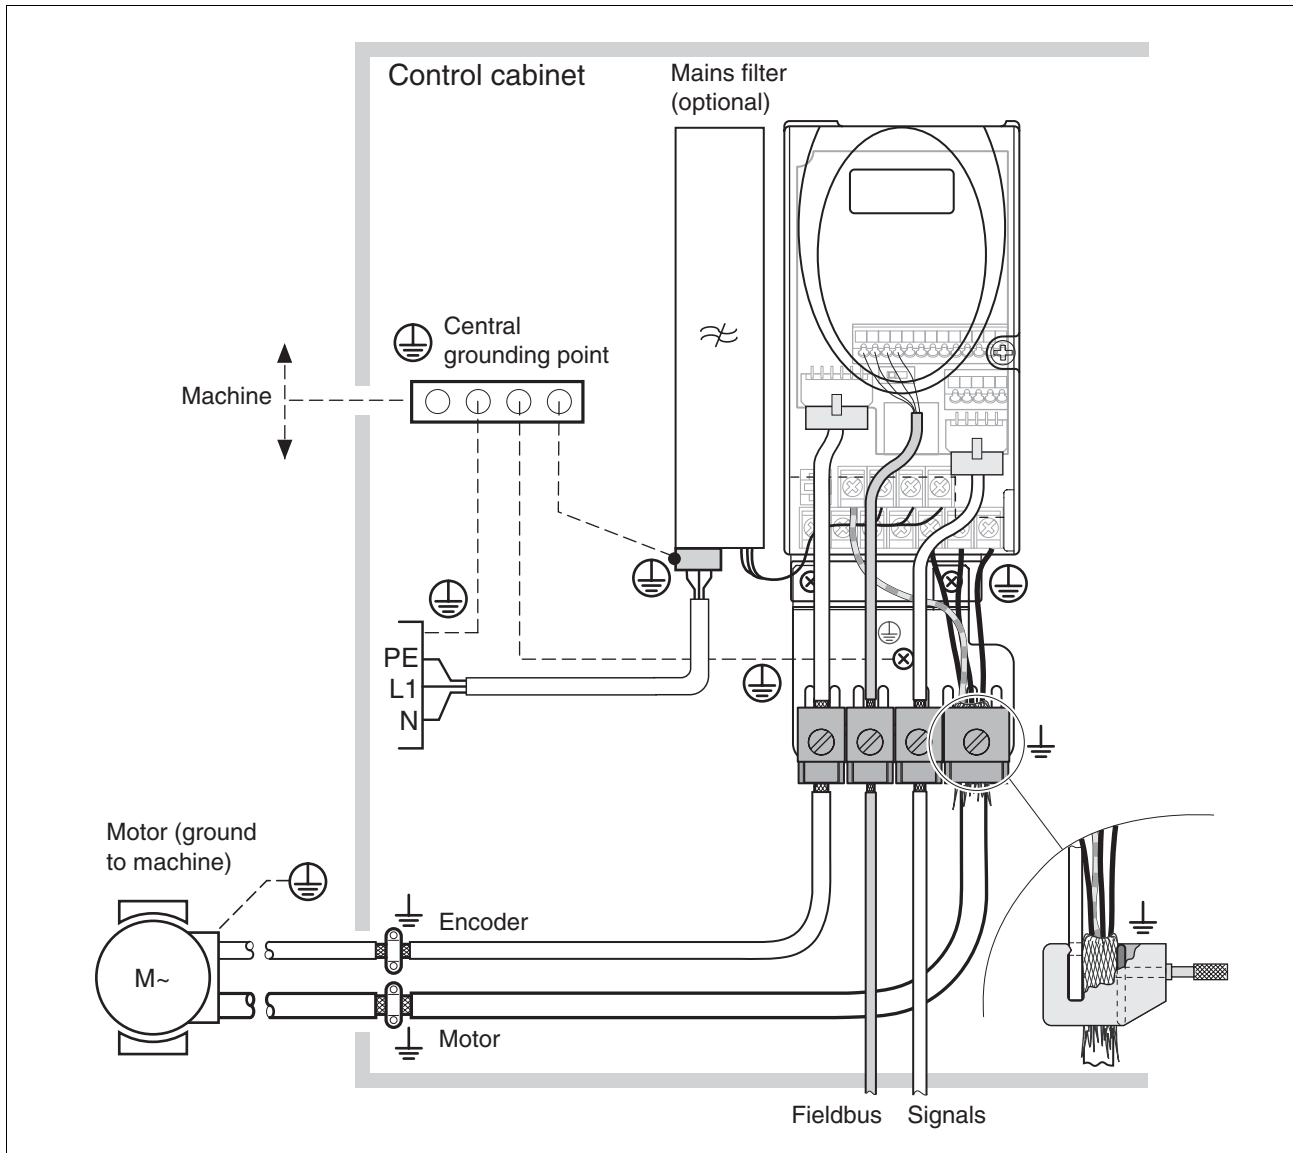

Figure 6.1 EMC measures1
- ▶ Mount the EMC plate at the bottom of the device, see also Figure 6.1, or use alternative connection elements (busbars, shield clamps or similar).